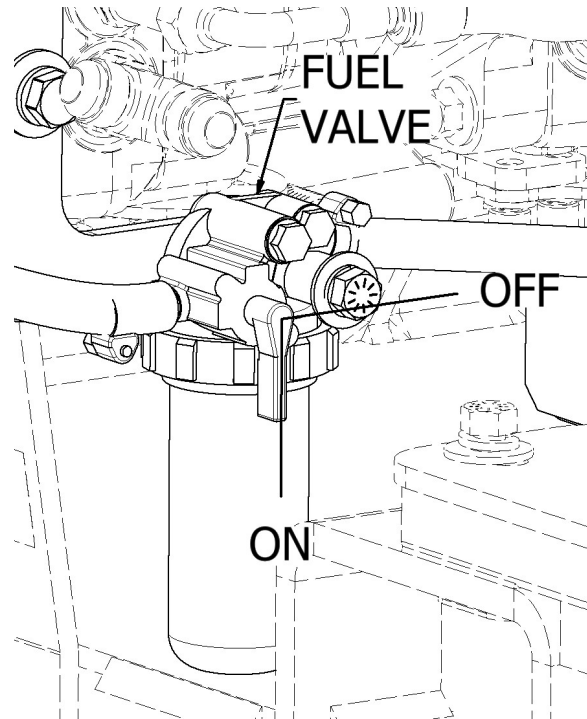

Figure 5.13 – Fuel Valve On/Off
2. Turn the fuel valve to the off position. See Figure 5.13.
2. Turn the fuel valve to the ON position (Figure 5.13).